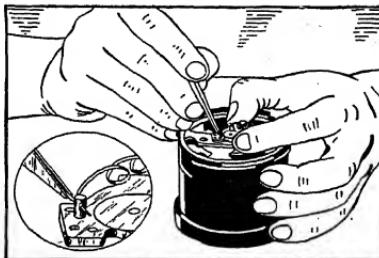

FIG. 25.—Removing the hair
*In all Kollsman altimeters, take out the three bearing plate screws and lift out the bearing plate very carefully, as the hairspring is fastened to it. Turn the bearing plate over, push the hairspring free, and remove it as in Fig. 25. Lift the wheel through the hole in the site of the mechanism frame with tweezers.*